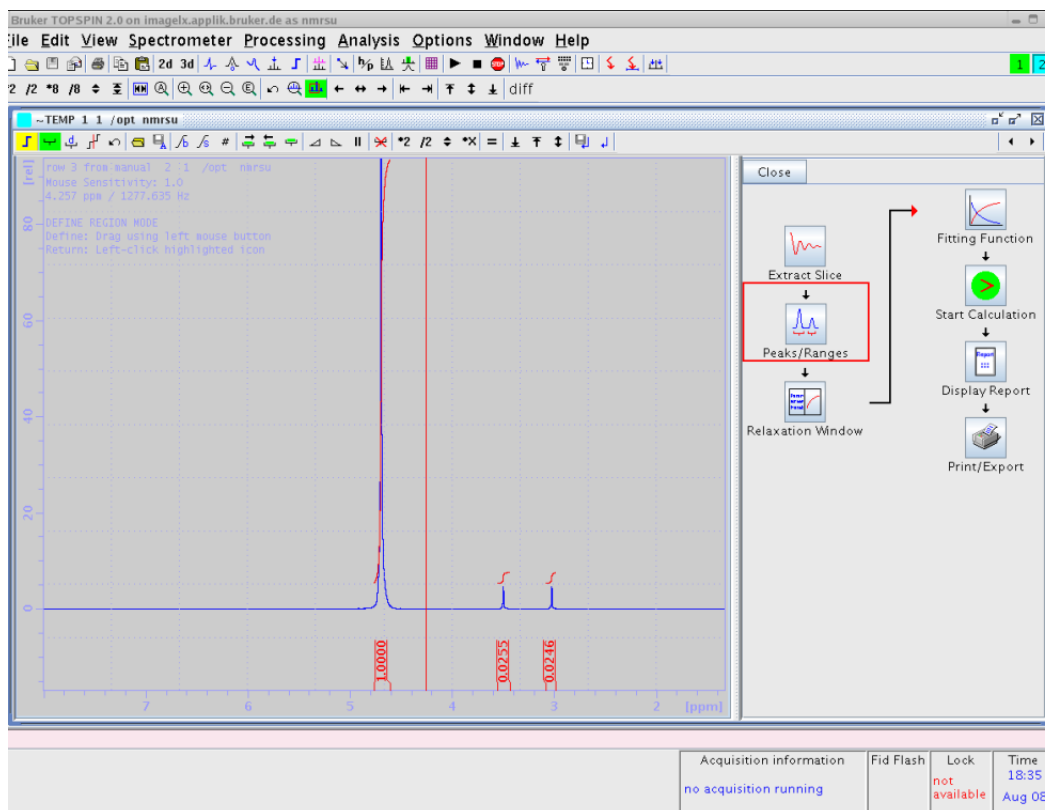

Figure 3.11 Spectrum with integrated Peaks
7. Select **Manual Integration**. This will open the 1D integration window, where we can select the peaks by dragging the left mouse button. See Figure 3.11